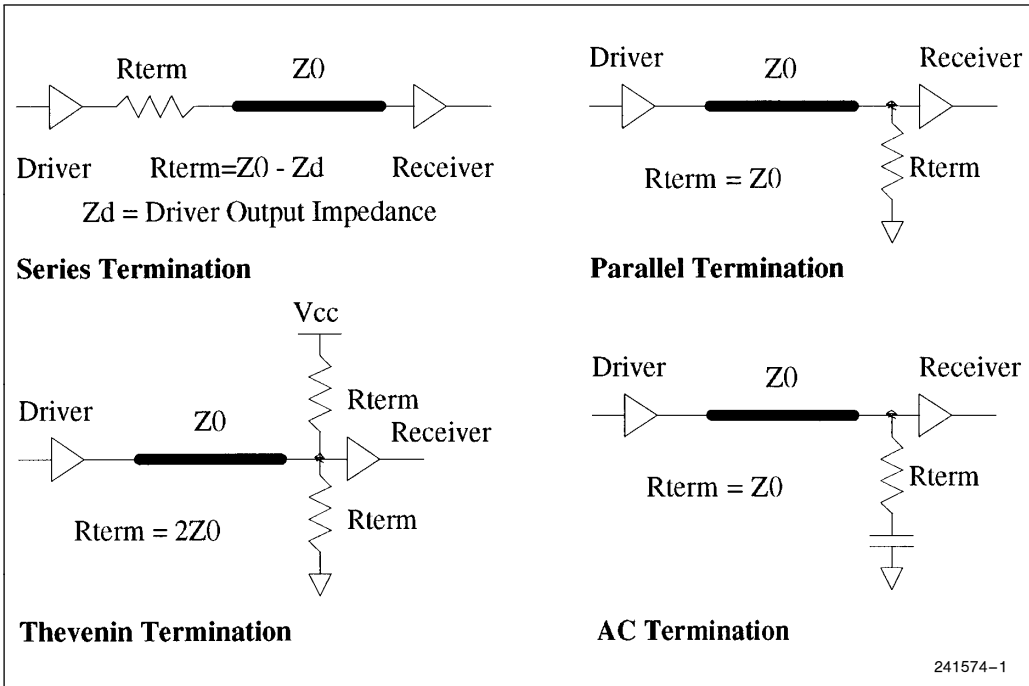

Figure 1. Common Termination Techniques
There are four basic ways to terminate a transmission line, series, parallel, Thevenin, and AC terminations (Figure 1). Series termination is recommended when driver output impedance is less than the transmission line characteristic impedance (true for most TTL drivers) and the line is driving a small number of devices. Series termination consumes low power and uses only one device; however, the termination method increases signal rise and fall times. Series termination ensures good signal quality by eliminating secondary reflection off the driver end. The rest of the termination methods eliminate reflection at the load end. All of the termination methods can provide good, clean clock signals at the load. Both parallel and Thevenin terminations consume a large amount of power. Thevenin termination consumes less power than parallel but requires one more device. AC termination consumes low power but adds capacitive load to the driver and delay due to RC time constant. Design examples provided with this application note use series termination. For more information on transmission line effects and design issues, please refer to [ref. 3, ref. 4, ref. 5]